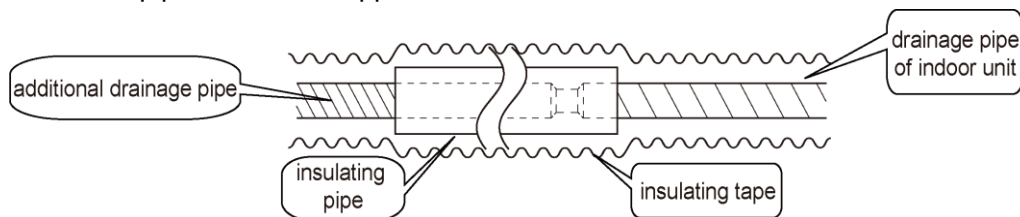

Fig 4.3.1
- (1) It is not allowed to connect the condensate drain pipe into waste pipe or other pipelines which are likely to produce corrosive or peculiar smell to prevent the smell from entering indoors or corrupt the unit.
- (2) It is not allowed to connect the condensate drain pipe into rain pipe to prevent rain water from pouring in and cause property loss or personal injury.
- (3) Condensate drain pipe should be connected into special drain system for air conditioner.
- (4) The drainage pipe should be short and the gradient downwards should be at least 1%~2% in order to drain condensation water smoothly.
- (5) The diameter of drainage hose should be bigger or equal to the diameter of drainage pipe joint.
- (6) Install drainage pipe according to the following fig and arrange insulation to the drainage pipe. Improper installation may lead to water leakage and damp the furniture and other things in the room.
- (7) You can buy normal hard PVC pipe used as the drainage pipe. During connection, insert the end of PVC pipe into the drainage hole and then tighten it with drainage hole and wire binder. Can't connect the drainage hole and drainage hole with glue.
- (8) When the drainage pipelines are used for several units, the position of pipeline should Fig 4.3.1 be about 100mm lower than the drainage port of each unit. In this case, thicker pipes should be applied.